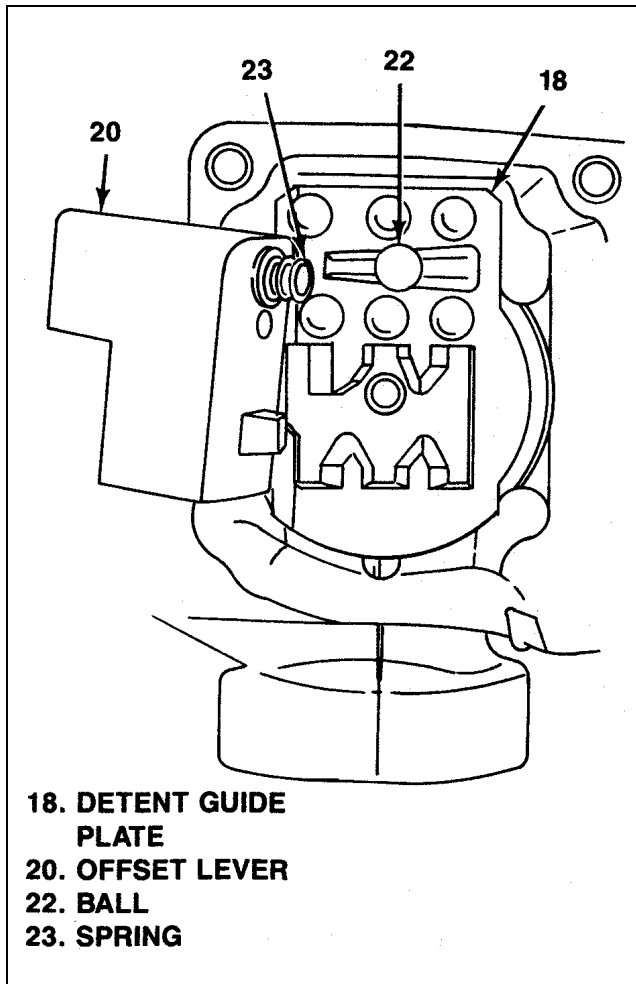

Figure 6-20. T5 WC Ball in 3rd-4th Position
- f. Position ball (22) in 3-4 position in detent guide plate (18) (see figure 6-20).
- g. Insert spring (23) in offset lever (20). Use petrolatum to hold in place.
- h. Position offset lever (20) (with spring) in extension (17A) or adapter (17B) , engaging open end of spring (23) on ball (22) and push down on offset lever with one hand, pick up extension or adapter with the other and move parts into position at rear of transmission. Guide offset lever over end of shifter shaft (29) while moving extension or adapter up against rear of transmission case (117).
- i. Install bolts (16) and torque to 23 lb-ft (30 Nm).
- j. Align pin holes in offset lever (20) and shifter shaft (29) and drive in roll pin (15).